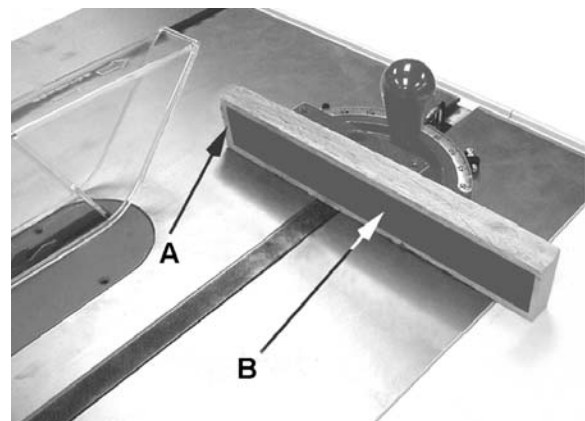

Figure 38
To improve the effectiveness of the miter gauge in crosscutting, some users mount an auxiliary wooden extension face (A, Figure 38) with a glued-on strip of sandpaper (B) to the miter gauge.